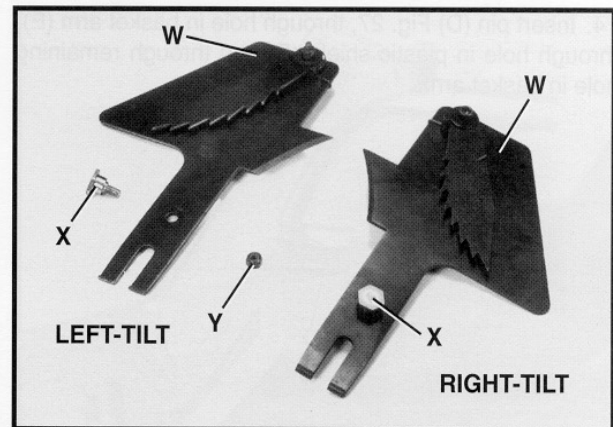

Fig. 23
11. Insert index pin (X) Fig. 23, through the hole in splitter (W), as shown and fasten with locknut (Y). Fig. 23 illustrates the index pin assembly arrangement for both right and left-tilting arbor saws.